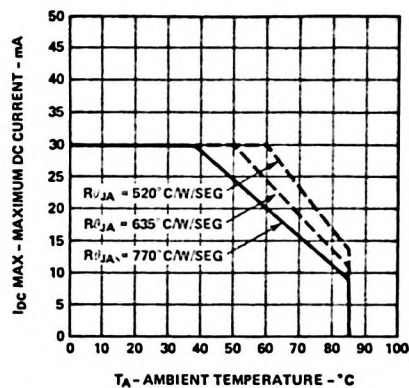
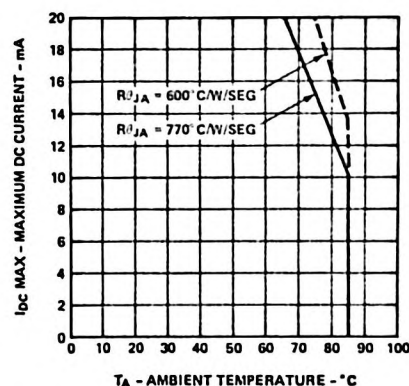
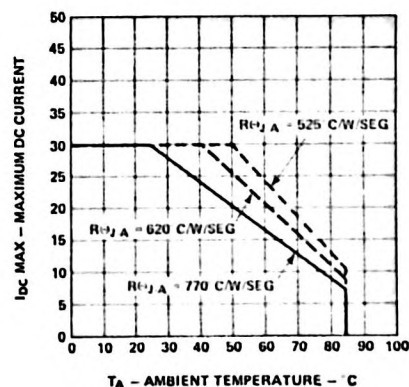

Figure 9. Maximum Allowable DC Current and DC Power Dissipation per Segment as a Function of Ambient Temperature — HDSP-7500 Series
Figure 10. Maximum Allowable DC Current and DC Power Dissipation per Segment as a Function of Ambient Temperature — HDSP-7400 Series
Figure 11. Maximum Allowable DC Current per Segment vs. Ambient Temperature — HDSP-7800 Series
9. See Figures 2, 9, 10, and 11 to derate maximum DC current. (Figure 2, HDSP-7300 Series; Figure 9, HDSP-7500 Series; Figure 10, HDSP-7400 Series; Figure 11, HDSP-7800 Series)